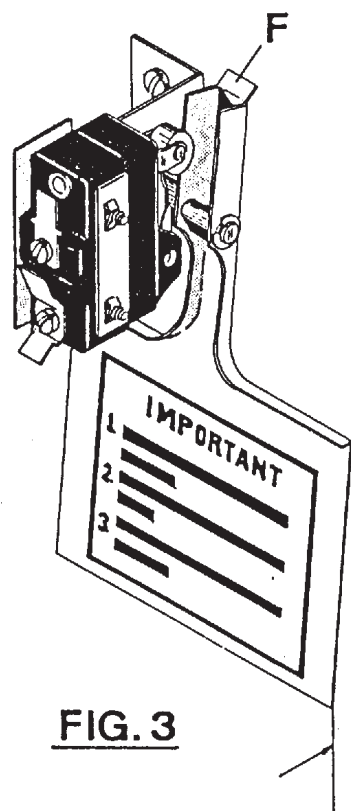

FIG. 3
4. Maximum opening of air switch must be no greater than 3/4" (20 mm) (FIGURE 3). Bend tab "F" in or out to maintain this dimension.